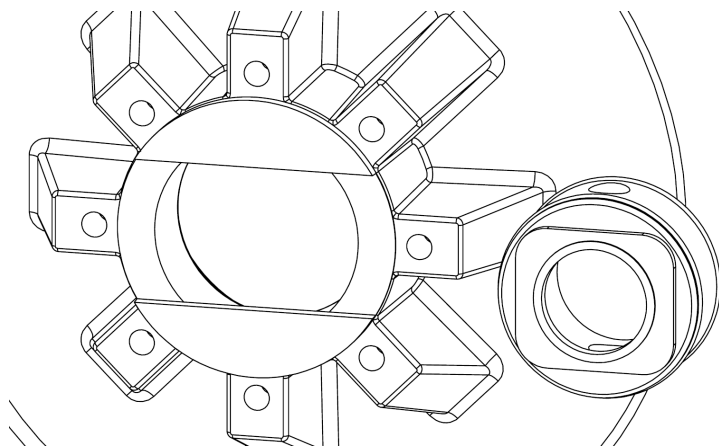

Figure 30
3. The o-rings on the stationary seal must be lubricated well or it will be very difficult to push the stationary seal into the its' bore. Line up the flats on the stationary seal with the rectangular hole in the hub of the casing. See figure 30.